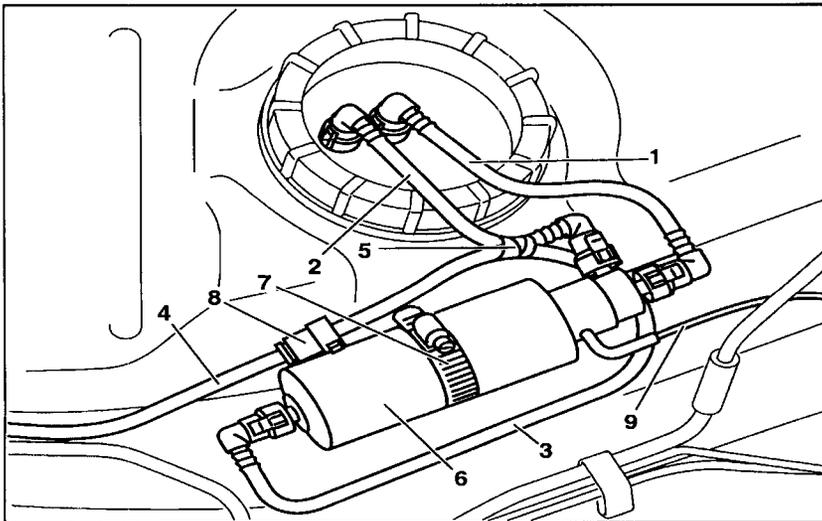

Figure 1
5. Using Special Tool 163 589 00 37 00, disconnect existing fuel lines (1, 2, Figure 1) from fuel pump. Discard fuel lines after disconnecting from the fuel pump.
1. Connect new fuel feed line (1, Figure 1) from fuel pump (located underneath round cover) to filter (6, Figure 1).
2. Connect new fuel feed return line (2, Figure 1) to fuel pump (located underneath round cover) from filter (6, Figure 1).
3. Connect fuel loop line (3, Figure 1) to engine fuel feed line (4, Figure 1) at connection (8, Figure 1).
4. Secure fuel loop line (3, Figure 1) via a cable tie (5, Figure 1) to the previously installed fuel feed return line (2, Figure 1).
5. Next place fuel filter with pressure regulator (6, Figure 1) into its bracket located on frame.
6. Move clamp (7, Figure 1) into center position of the filter with pressure regulator (6, Figure 1).
7. Connect fuel feed line (1, Figure 1) as well as fuel return line (2, Figure 1) to filter with pressure regulator as shown in Figure 1.
8. Connect fuel loop line (3, Figure 1) to forward end of filter with pressure regulator (6, Figure 1) as shown in Figure 1.
Ensure that fuel loop line (3, Figure 1) is routed **underneath rear** of the fuel filter and that connection (8, Figure 1) is **NOT compressed** between the fuel filter and the fuel tank.
9. Attach vent hose (9, Figure 1) to fuel filter with pressure regulator (6, Figure 1).
10. Adjust position of fuel filter with pressure regulator (6, Figure 1) on its bracket and then tighten clamp (7, Figure 1). Observe tightening torque on clamp, see WIS document: BA47.20-P-1003-01B.